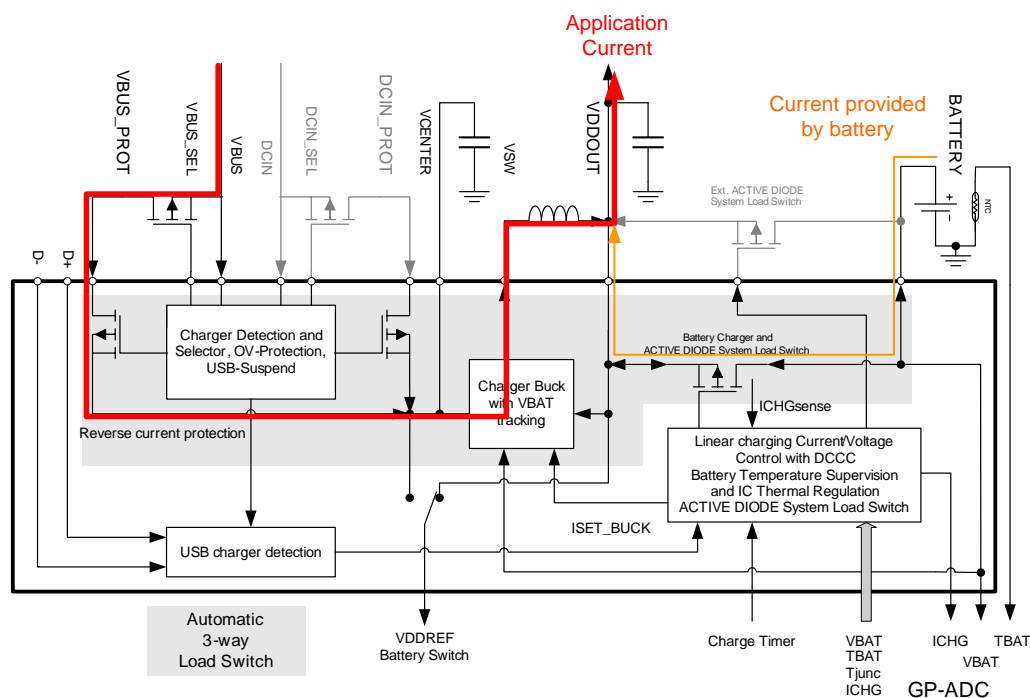

Figure 11: Current path from valid USB according to state C.
- C. If the application load alone exceeds input current limit ISET_BUCK, the battery linear charger shuts off completely and the extra power is drawn from the battery via the active diode (see Figure 11).